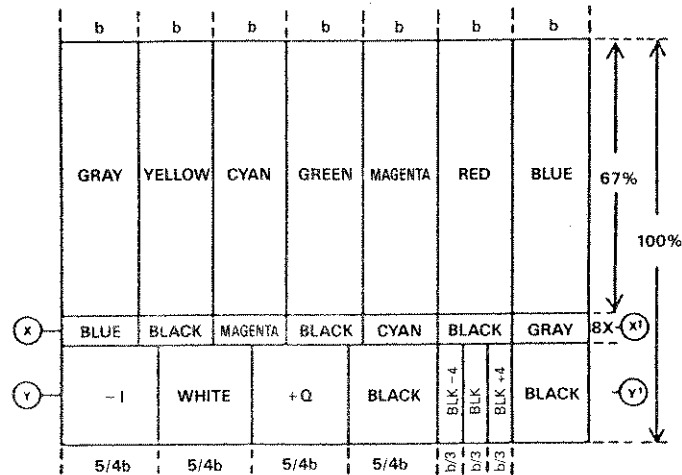

Figure 5.3
5.1.2 SMPTE Color Bar Pattern (See Figure 5.3, 5.4, 5.5 and 5.6)